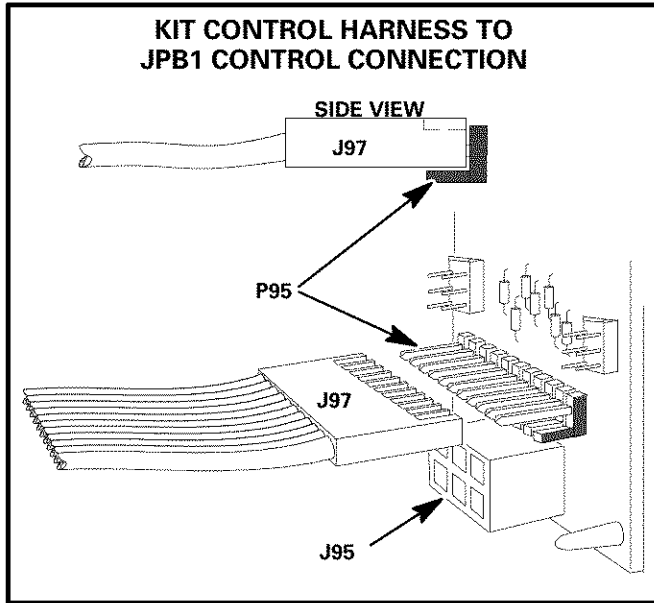

FIGURE 6
16- Connect motor control harness, provided with kit, between circuit board (J97-harness to P95-board) and motor (P97-harness to J49-motor). See figure 6 for correct positioning of control harness to the circuit board.
- 23- Connect motor control harness, provided with kit, between circuit board (J97-harness to P95-board) and motor (P97-harness to J49-motor). See figure 6 for correct positioning of control harness to the circuit board.